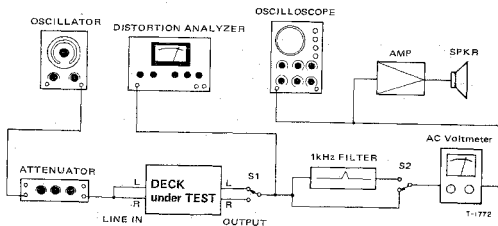

Fig. 5-1 Basic test setup
8. Erase efficiency	<ul style="list-style-type: none"> <li>• Connection is same as in Fig. 5-1, but engage 1-kHz filter.</li> <li>• Record a 1-kHz signal. Rewind tape to midpoint of recorded portion. Record a "no signal" portion. Find the difference between the 1-kHz portion and the "no-signal" portion.</li> </ul>
19. REC MUTE function	<ul style="list-style-type: none"> <li>• Connection: Fig. 5-1, but engage 1-kHz filter.</li> <li>• Record a 1-kHz signal. Push REC MUTE button for several seconds. Rewind and play the tape. Find the difference between the 1-kHz portion and the "no-signal" portion.</li> </ul>
20. Channel separation	<ul style="list-style-type: none"> <li>• Connection: Fig. 5-1, but do not connect LINE IN (R), and engage 1-kHz filter.</li> <li>• Set the deck to record mode. Find the difference between the 1-kHz recorded portion (L-ch) and the "no signal" portion (R-ch).</li> </ul>
21. Adjacent track crosstalk	<ul style="list-style-type: none"> <li>• Connection: Fig. 5-1, but do not connect LINE IN (L) and OUTPUT (L).</li> <li>• Record a 125-Hz signal on R-ch and note output level. Invert tape and play R-ch track. Check leakage level against the output reference of previously recorded portion.</li> </ul>